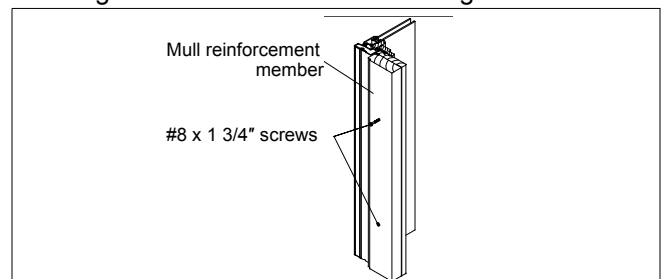

Figure 6
2. Attach mullion reinforcement member (W7008) vertically to side jambs or horizontally to head jambs (depending on mulling configuration) with #8 x 1 3/4" screws spaced every 12" (305) along the length of the reinforcement. See figure 6.